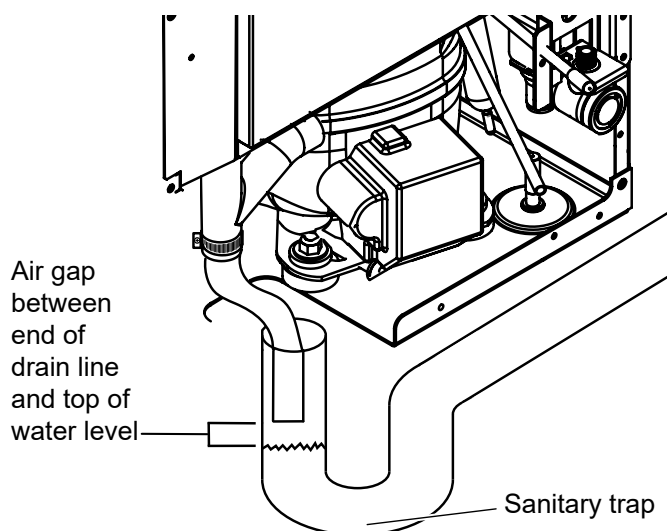

Figure 16: Example of an open drain.
- b. Your drain line is plumbed into an open drain (Figure 16).